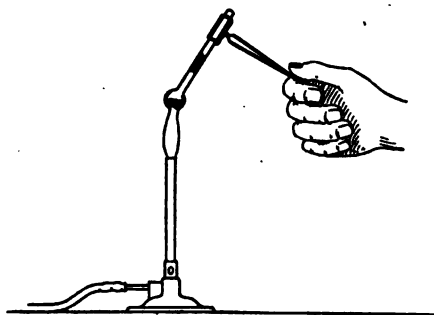

FIG. 53
amount of arsenious oxide equal in bulk to a grain of wheat. Cover this to a depth of 2 or 3 cm. with somewhat finely powdered charcoal which has been strongly heated in a porcelain crucible. See that the inner surface of the tube above the charcoal is perfectly clean. Incline the tube and heat the *upper* portion of the charcoal to a high temperature; then, while maintaining the charcoal at this temperature, gradually bring the lower part of the tube also into the flame (Fig. 53). The upper part of the tube must be kept as cool as possible. The arsenious oxide is changed into a vapor, which passes over the hot charcoal. Account for the result (R). Cut the tube as near the bottom as possible and remove the charcoal; then, inclining the tube, apply a very *gentle* heat to the portion of it which contains the dark mirror. Note that small white crystals are slowly deposited in the colder portions of the tube (R). Note their form.